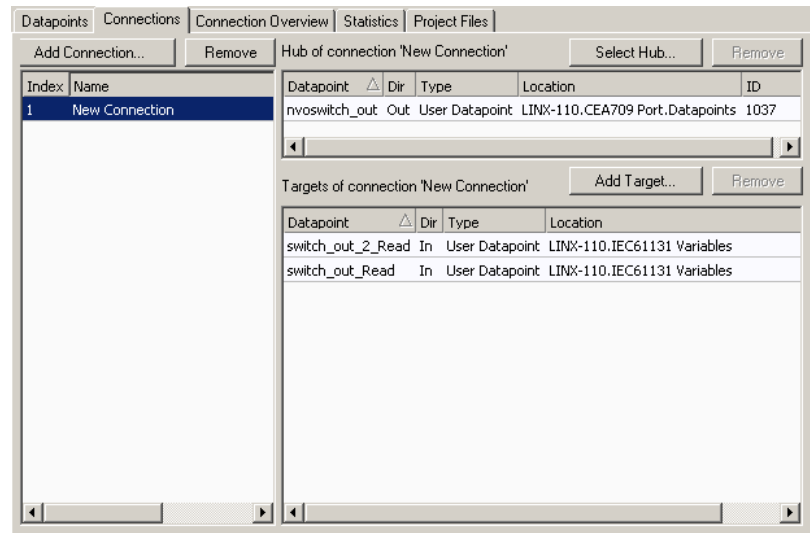

Figure 120: Connection dialog with hub and target points.
- Now the connection dialog contains a hub and two target data point as shown in Figure 120.